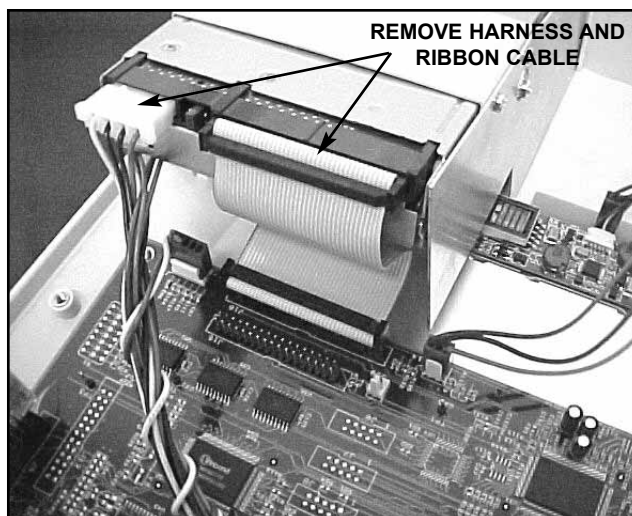

FIGURE 6.4
2. Remove ribbon cable from J18 of Control Board and Zip Drive. Lay aside for re-installation. See Figure 6.4.
3. Disconnect Wiring Harness From Zip Drive. See Figure 6.4.
2. Install Wiring Harness to Zip Drive and Ribbon Cable to Zip Drive and J18 of Control Board. See Figure 6.4.